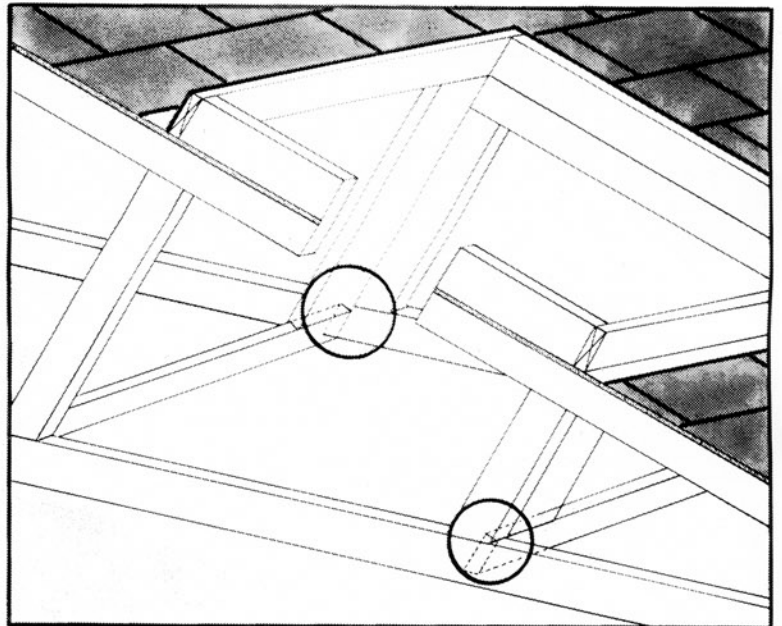

Figure 5
5. Tunnel Construction: (Figures 5)